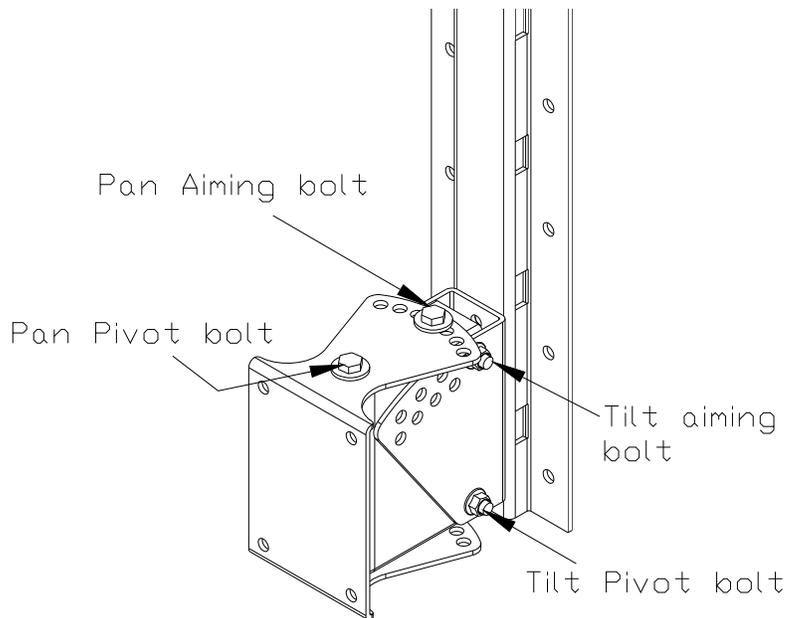

Figure 2d
The M10 tilt pivot bolt should be inserted first and secured but not completely tightened using the nylon insert M10 nuts supplied. The tilt pivot bolt is shown below in Figure 2d. Then the M10 tilt aiming bolt should be inserted and nylon insert nuts applied. Then the tilt axis bolts should be tightened.
**CAUTION: DO NOT REMOVE THE PAN PIVOT BOLT (See Figure 2d)**
The M10 tilt pivot bolt should be inserted first and secured but not completely tightened using the nylon insert M10 nut supplied. The tilt pivot bolt is shown below in Figure 2d. Then the M10 tilt aiming bolt should be inserted and nylon insert nuts applied. Then the tilt axis bolts should be tightened.